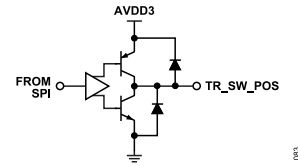

Figure 88. TR_SW_POS Switch Driver
- ▶ `TR_SW_POS` for a positive voltage control transmit/receive switch. Outputs between 0 V and `AVDD3` (nominally 3.3 V) (See Figure 88).